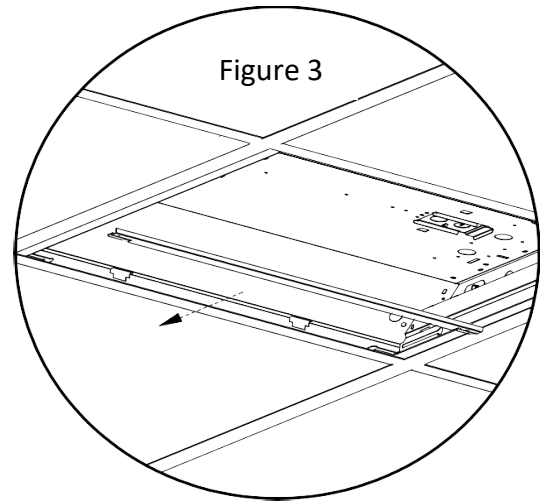

Figure 3
3. Install the door frame side brackets (B) between the fixture and the T-grid, inserting them into the two slots in the ends of the key-holed end brackets. (Fig.3)